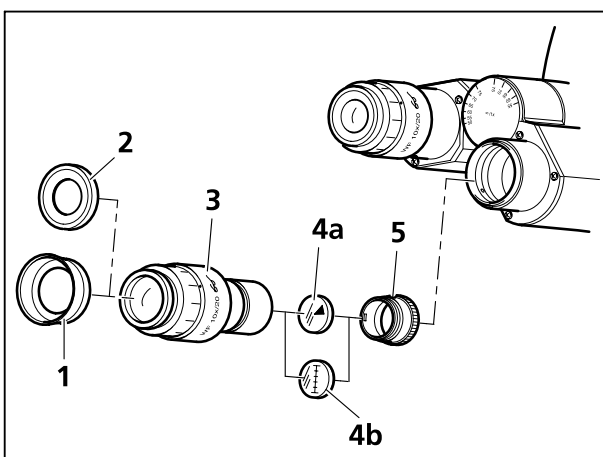

Fig. 14 Inserting the eyepiece pointer or eyepiece micrometer
The eyepieces (Fig. 14/3) can be equipped with fold-over rubber eyecups (Fig. 14/1: pulled out; Fig. 14/2: folded over). Die eyecups are supplied together with the eyepieces, but are not yet mounted.
- Unscrew the stop (Fig. 14/5) by hand from the eyepiece.
- Insert the eyepiece pointer (Fig. 14/4a) or the eyepiece micrometer (Fig. 14/4b) into the eyepiece (with the coated side facing your eyes).
- Turn the focusing ring of the eyepiece (Fig. 14/3) to focus on the wedge-shaped figure of the eyepiece pointer.